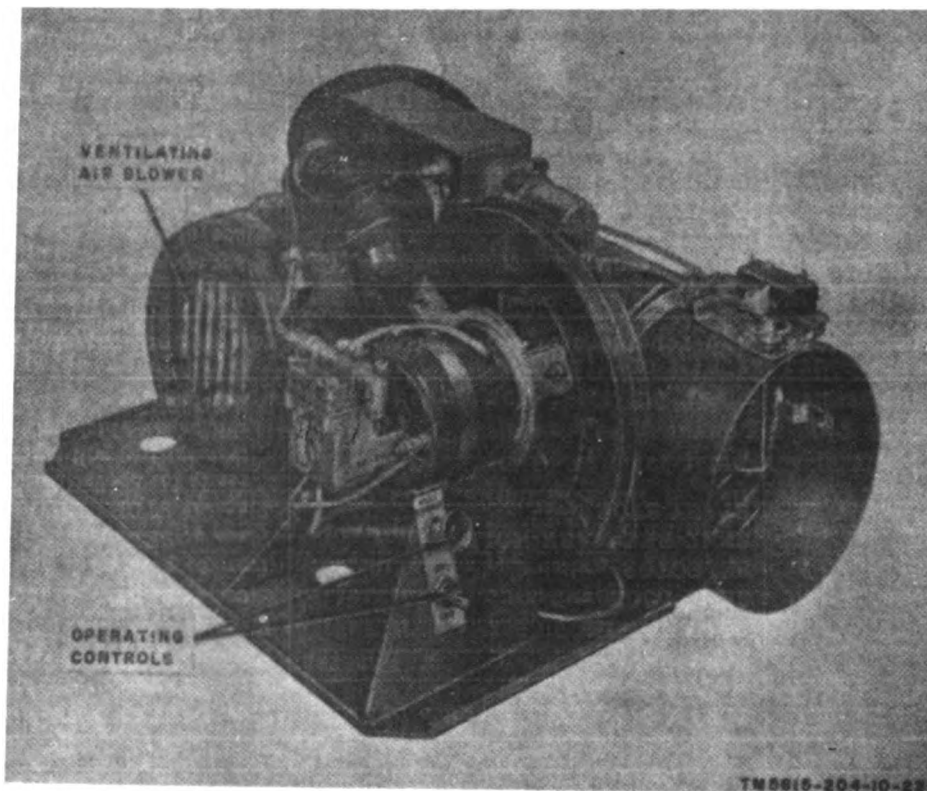

Figure 14. Heater controls, AN/GRC-46, and AN/GRC-46A.
b. The following table lists the controls of the heater (fig. 14) in the AN/GRC-46, and AN/GRC-46A and indicates their function: